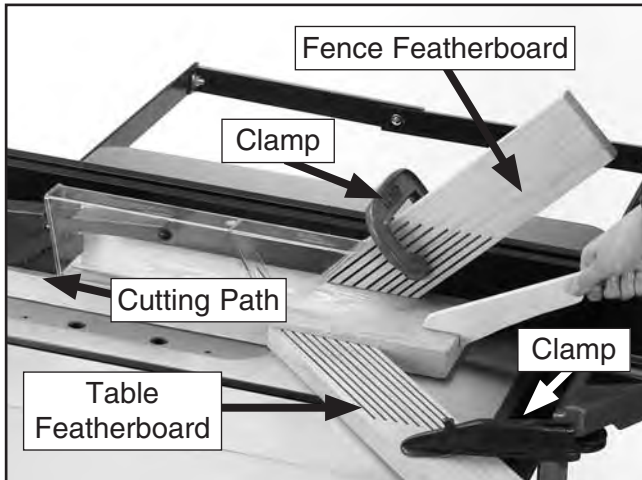

Figure 80. Example of featherboards secured with clamps.
3. Place a featherboard on the table away from the blade so all fingers point forward and contact the workpiece (see **Figure 80**).
6. Mount a second featherboard to the fence with another clamp (see **Figure 80**), then repeat **Step 5** to ensure it is secure.